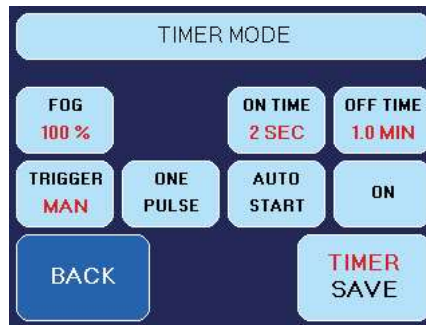

Fig. 19 Screen Timer-Mode
- On the following Timer Mode-screen (Fig. 19), the pump value (FOG = output) can be adjusted between 0 and 100%.